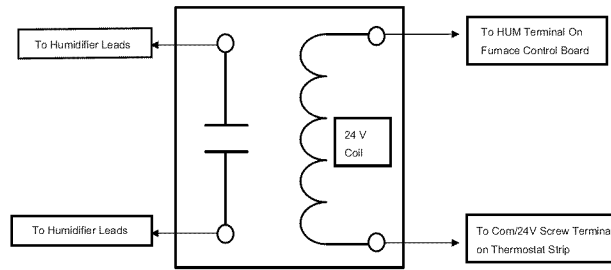

Fig. 33 - Field-supplied Isolation Relay for Humidifiers with Internal Power Supply
#### Accessories (See Fig. 33 and 35.)
**NOTE:** If the humidifier has its own 24 VAC power supply, an isolation relay may be required. Connect the 24 VAC coil of the isolation relay to the HUM and COM/24V screw terminal on the control board thermostat strip. (See Fig. 33.)